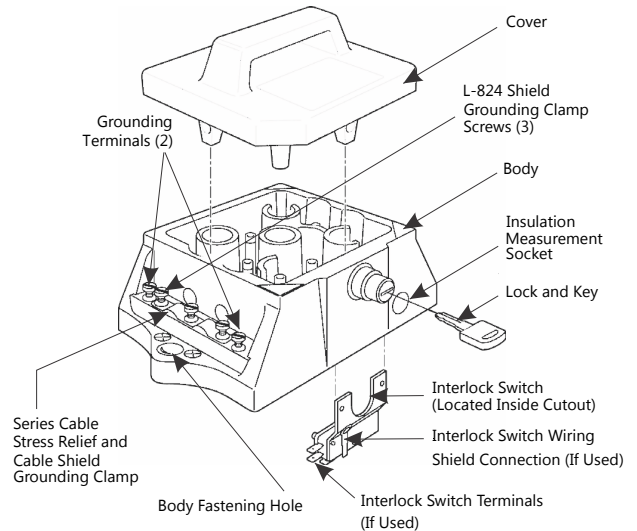

Fig.1 SCO Exploded View
**Note:** Grounding terminal (Fig. 1, Item 8) must be grounded for safe operation. Grounding clamp (Fig. 1, Item 7) must not be present for unshielded L-824 applications.